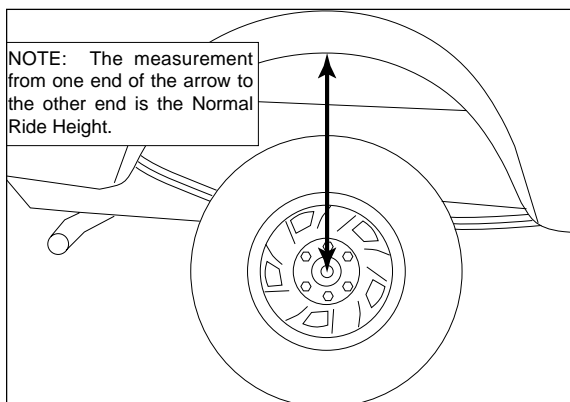

Figure 3
3. Measure the distance between the center of the hub and the bottom edge of the wheel well (Figure 3). This is the Normal Ride Height. Enter the measurement below: